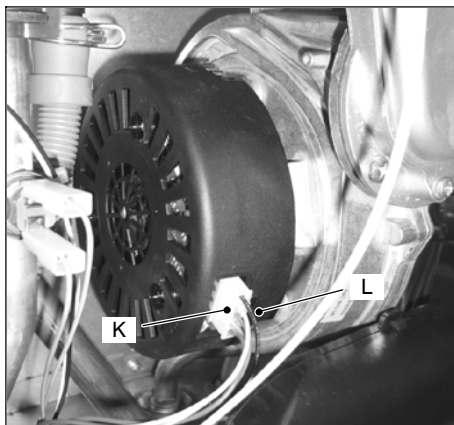

Fig. 9.7 (rear view of the fan)
- 7 Disconnect the connector of the fan K by pressing the plastic hook L placed on the rear side of the connector (Fig. 9.7).